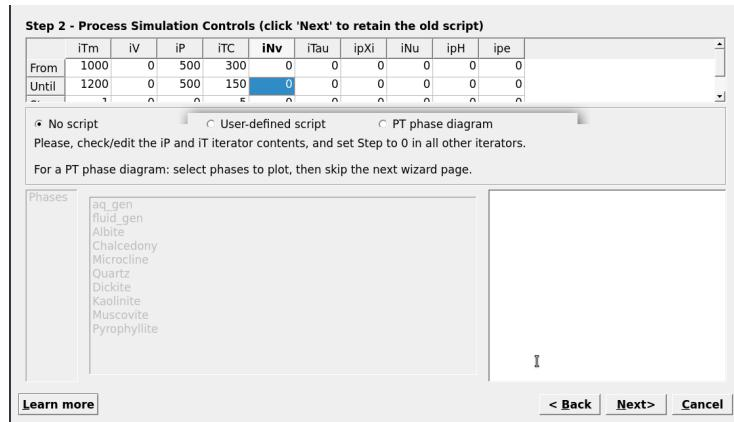

Figure 2.19: ‘Controls’ window showing the set up for a cooling model (no titration); select ‘No script’, set ‘iNu’ to 0 and ‘iTc’ to 300, 150, -5.
- In the **Controls** tab (or wizard step 2) select **No script**, set **iNu** to 0 and **iTC** to 300, 150, -5 as shown in Figure 2.19.